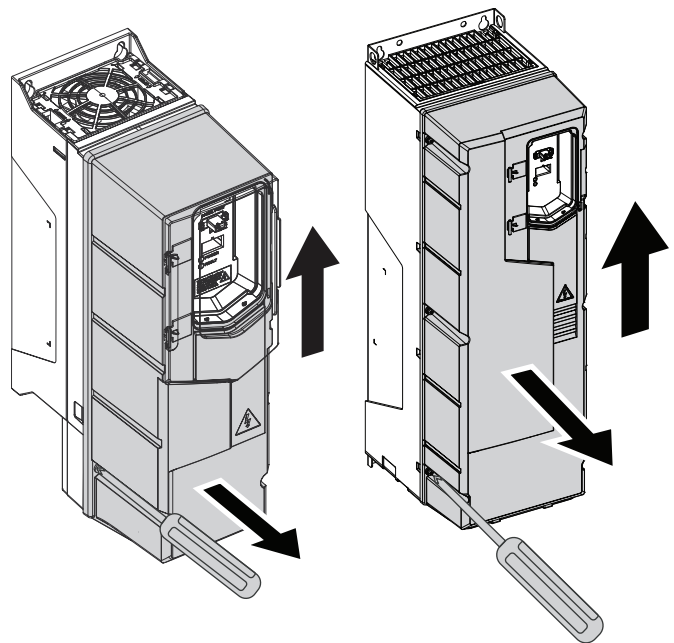

Fig. 46 — Remove Drive Cover (R1 and R2 Frame Sizes)
2. Remove the drive cover (see Fig. 46).
3. Remove the front cover by loosening the retaining screw. See Fig. 46.